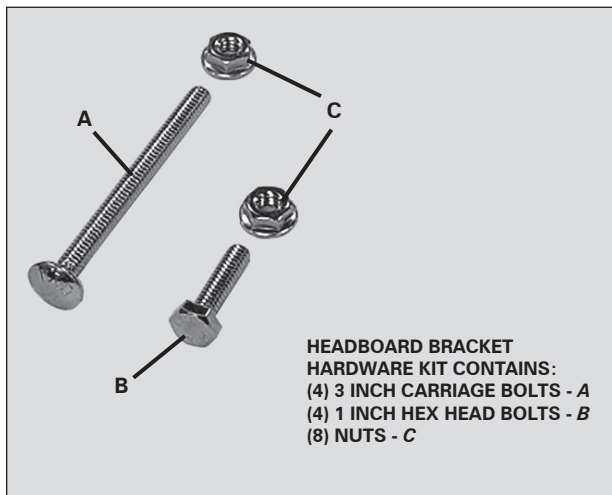
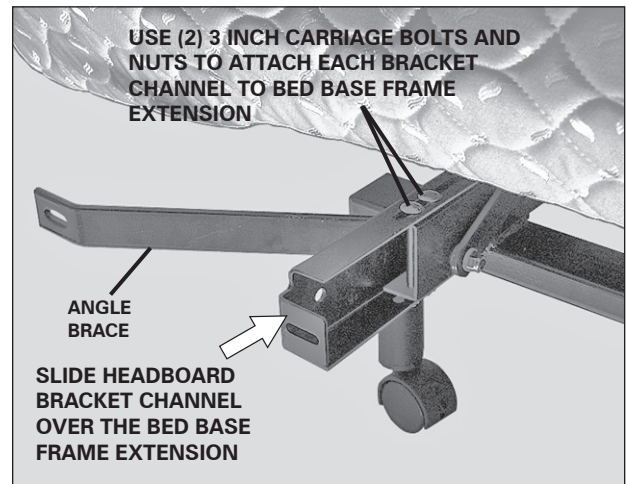

FIGURE 6: Headboard bracket hardware.
FIGURE 7: Headboard bracket channel installation (*one each side of the head section of the bed*).
- b. Slide one headboard bracket channel onto one side of the bed base frame. Using (2) carriage bolts/nuts (**FIGURE 6**) attach channel to base frame (**FIGURE 7**). Hand tighten bolts/nuts (loosely) to allow adjustment of the headboard bracket channels. Repeat procedure to install the other headboard bracket channel to the other side.
QUEEN SIZE HEADBOARD BRACKET ASSEMBLIES ARE SHOWN. TWIN SIZE HEADBOARD BRACKETS (OR SMALLER) ARE NOT EQUIPPED WITH ANGLE BRACE (**FIGURES 7 AND 8**).